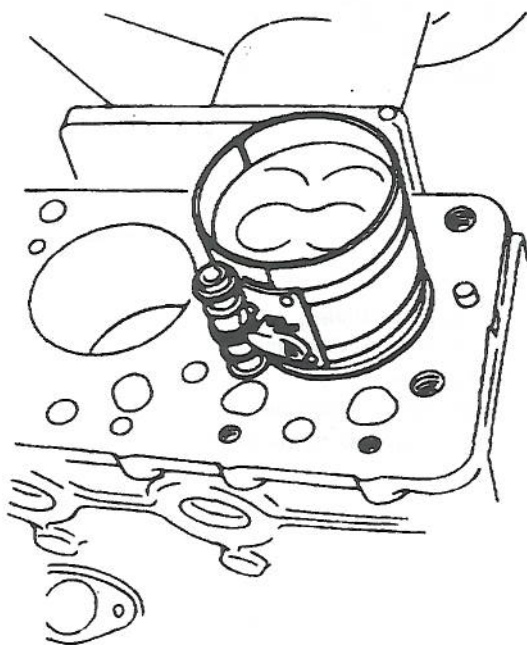

Figure 5-67. Piston and Connecting Rod Installation
- (9) Insert connecting rod capscrews (5) into connecting rods.
- (10) Lubricate pistons and ring sets (3). Using a ring compressor tool, insert pistons and connecting rods into bore, as shown in figure 5-67.
- (11) Slip short lengths of rubber tubing over ends of connecting rod capscrews (5) and guide rod ends over crankshaft journals.